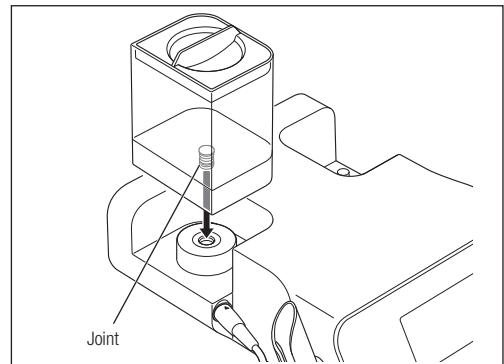

Fig. 13
- 3) Close the Irrigation Bottle Cap securely and insert the Bottle Joint straight into the Irrigation Bottle Base Connector (Fig. 13).